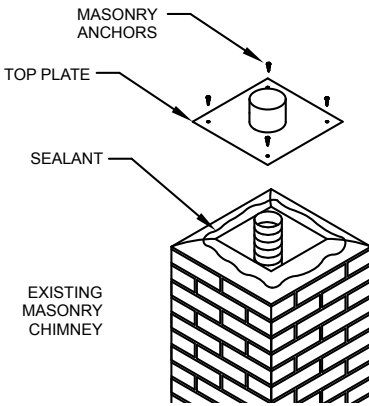

Figure 14
Step 2. Slide the Top Plate over the Flex and seal the Top Plate to the masonry chimney using a bead of non-hardening sealant around the top of the chimney. Refer to **Figure 14**.
Step 3. After sealing the Top Plate to the masonry chimney, attach the DuraFlex AL Cap to the Flex by tightening the fast connect band, as shown in **Figure 14**. Push the Cap's collar down until it rests on the Top Plate's collar.